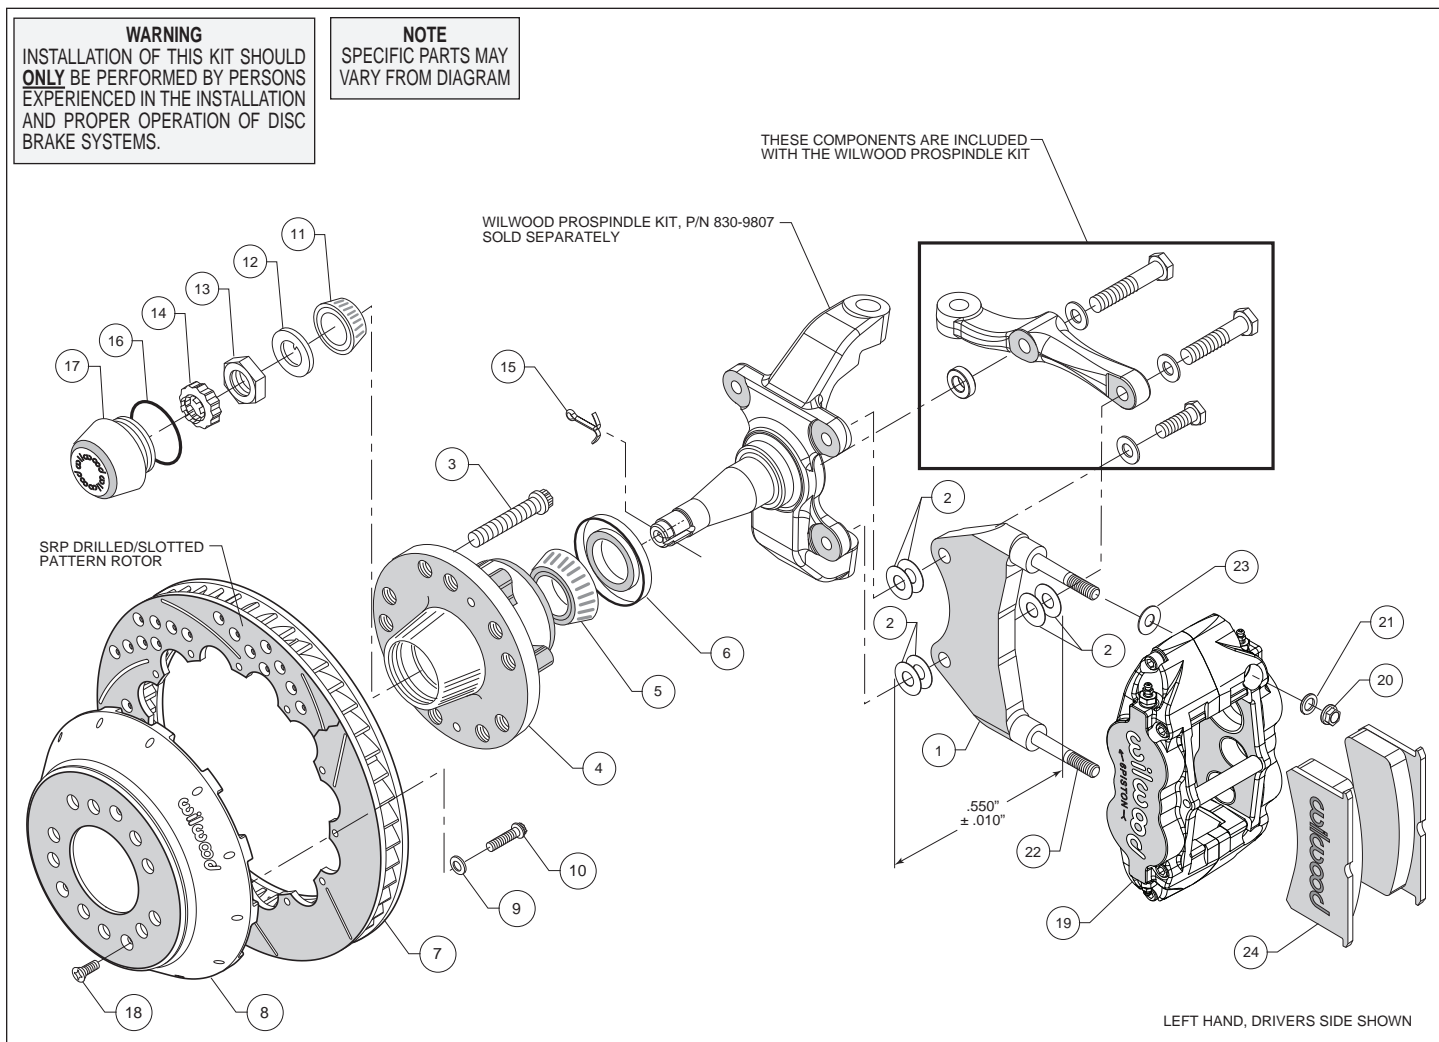
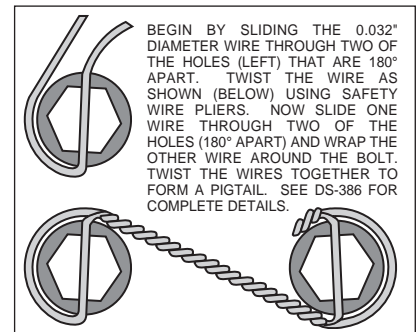

Figure 1. Typical Installation Configuration
Figure 3. Safety Wire Diagram
- Install wheel studs (3) into the hub (4). Torque to 77 ft-lb. **NOTE:** There are two lug patterns of five holes each in the hub (5×4.50 and 5×4.75). Make sure of the correct hole pattern for the wheel application before installing the studs into the hub.
- With the larger I.D. side of the rotor (7) facing away from the hat (8), bolt the rotor (7) to the hat (8) through the backside of the rotor using washers (9) and bolts (10) provided in the configuration pictured in figure 1. Using an alternating sequence, apply red *Loctite*® 271 to the threads and torque bolts to 155 in-lbs. For an added measure of security, the bolts may be safety wired using standard 0.032 inch diameter stainless steel safety wire as shown in Figure 3. Please refer to Wilwood's data sheet DS-386 (available at www.wilwood.com/Pdf/DataSheets/ds386.pdf) for complete safety wire installation instructions.
- **NOTE:** *This kit contains distinct right and left hand calipers that must be mounted in a specific direction, as described below.* Lubricate the caliper mounting studs (22) with lightweight oil. Initially place two .035" thick shims (23) and on each stud as shown in Figure 1. Mount the caliper (19) onto the bracket (1) using lock nuts (20) and washers (21), Figure 1. Ensure that the caliper is mounted so that the largest pistons are at the rotor exit end of the caliper, in relation to the direction of rotor rotation. Temporarily tighten the lock nuts and view the rotor through the top opening of the caliper. The rotor should be centered in the caliper. If not, adjust the caliper mounting bracket by using .016" thick shims (2) placed between the caliper mounting bracket and the spindle, or between the spindle and the steering arm, whichever is applicable to gain the proper caliper/rotor alignment. Always use the same amount of shims on each of the mounting bolts. Once the caliper alignment is correct, remove the bracket mounting bolts one at a time, apply red *Loctite*[®] 271 to the threads, and torque to specifications outlined in the Wilwood ProSpindle kit.
- Remove the caliper center bridge pad retainer bolt, nut, and tube from the caliper. Slide the brake pads (24) into place. They should install easily without interference. Check that the outside radius of the brake pad is aligned with the outside diameter radius of the rotor face. Add or subtract shims (23) between the caliper and mount bracket to gain the proper alignment. Reinstall the center bridge pad retainer tube, bolt, and lock nut. The locknut should be snug without play in the bolt or tube. Be cautious not to over tighten.
- Remove the lug nuts that were holding the hat in place. Install three flat head socket head screws (18) through the small holes in the hat (8) and torque to 85 **in-lb**. Install the wheel and torque the lug nuts to manufacturer's specification. Check to see that the wheel rotates freely without interference.
- Once all clearances have been checked, remove the wheel, caliper, hat, and rotor from the spindle and hub. Secure the caliper mounting bracket (1) to the spindle using red *Loctite*[®] 271 on the bolt threads. Torque the ProSpindle supplied bolts to 47 ft-lbs. Reinstall the hat and rotor assembly and again use several lug nuts to hold it in place. Reinstall the caliper, torque the caliper nuts (20) to 30 ft-lbs.